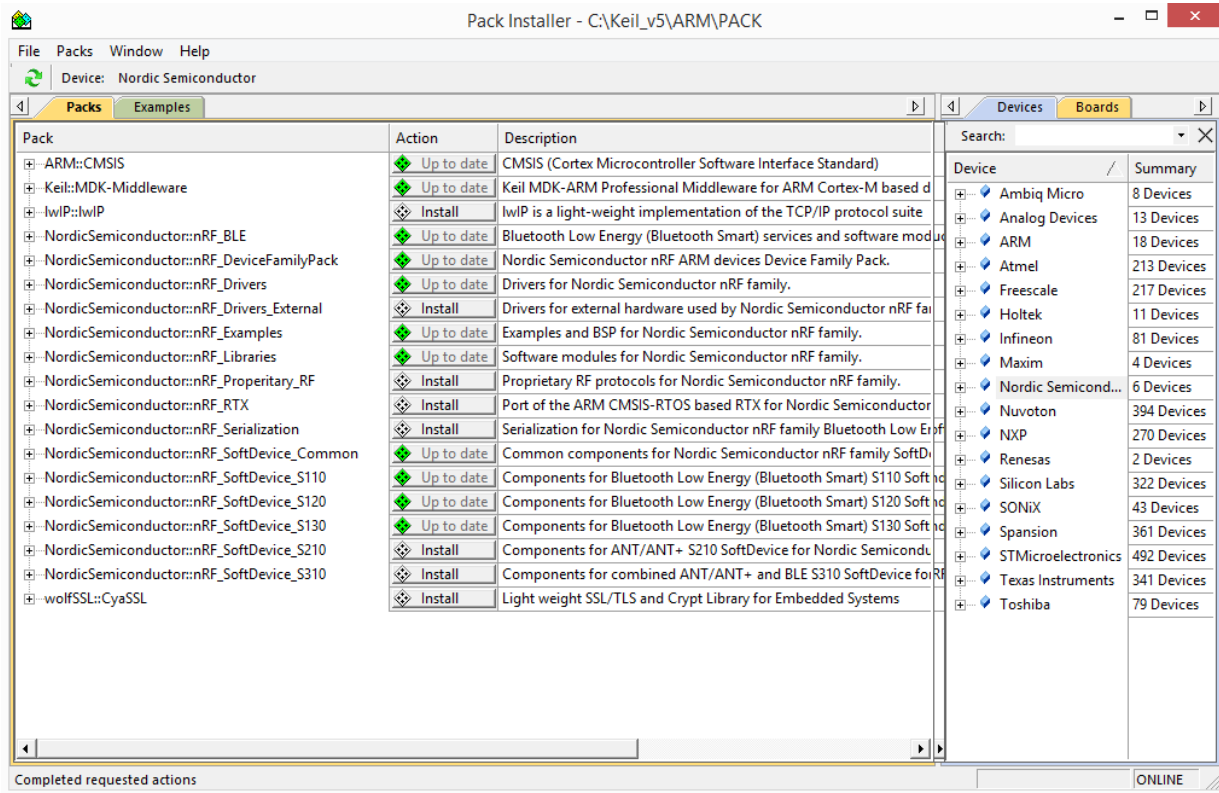

Figure 3- Keil MDK-ARM Pack Installer
4. Once the Keil MDK-ARM installation is complete, Keil will launch the Pack Installer. The Keil Pack Installer manages software components for the various microcontrollers supported by Keil. In the pane on the far right, select Nordic Semiconductor. Install all packs as shown in Figure 3 with a green diamond and "Up to date" in the action column